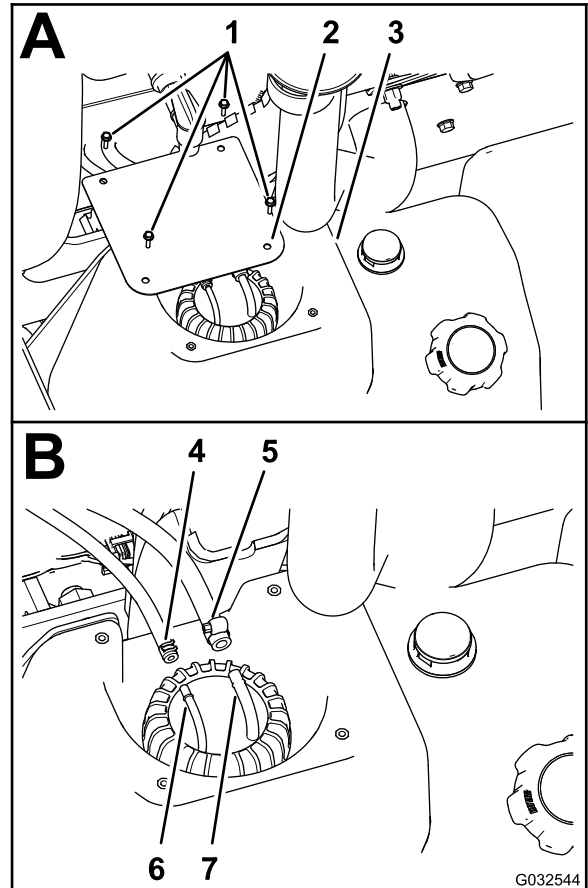

Figure 76
2. At the fuel tank, remove the 4 screws (#10 x 3/4 inch) that secure the cover to the top of the fuel tank, and remove the cover (Figure 76).
3. Loosen the clamps that secure the 2 fuel hoses to the 2 hose fittings at the top of the standpipe assembly (Figure 76).
4. Disconnect the 2 hoses from the hose fittings, and allow any fuel in the hoses to drain into an approved fuel container (Figure 76).
4. Assemble the 6.4 mm (1/4 inch) fuel hose onto the 6.4 mm (1/4 inch) hose fitting, and secure the hose to the fitting with the hose clamp (Figure 76).
5. Assemble the 8 mm (5/16 inch) fuel hose onto the 8 mm (5/16 inch) hose fitting, and secure the hose to the fitting with the hose clamp (Figure 76).